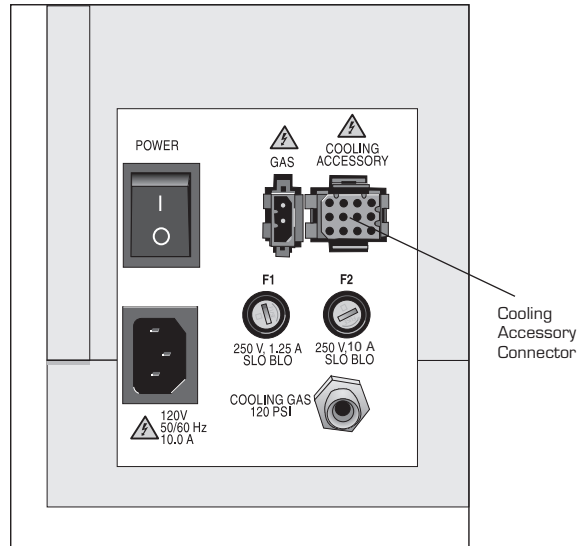

Figure 2.6
1. Locate the cooling accessory connector on the left rear of the instrument cabinet (Figure 2.6).